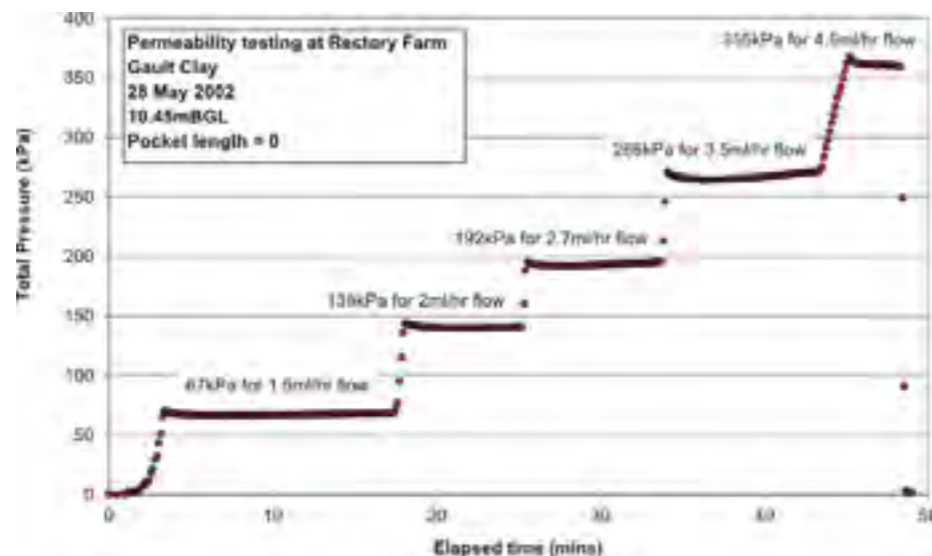

Figure 2 – Permeability testing, raw data
- Representative loads are applied - in the example shown in fig.2 about 12 tonnes is being applied to the cavity wall.
giving an excellent seal. As a consequence the drill string now provides a pipe from the surface down to the bottom of the probe allowing access to the formation. For low permeability material the pipe work is filled with water, is sealed off and is connected to the output of a small constant flow pump. This then pressurises the water column. Figure 2 shows steps of pressure, and the flow rates required to establish each